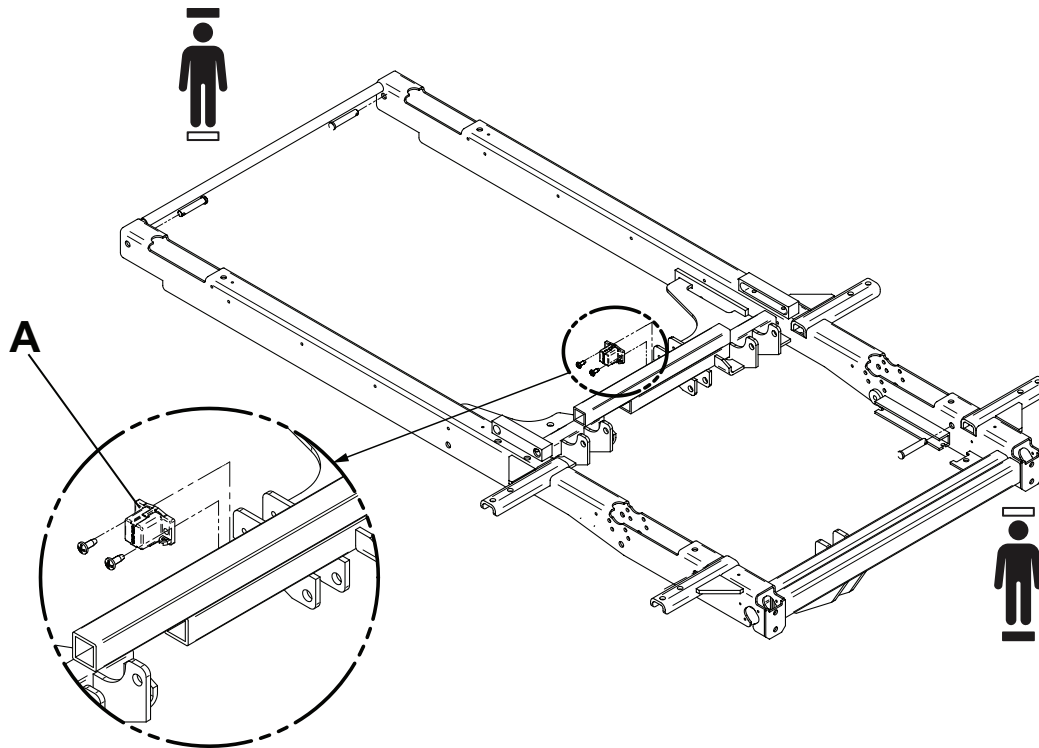

Figure 75 – Trendelenburg angle sensor
3. Working from the patient's right side, use a #2 Phillips short screwdriver to remove the two screws that secure the Trendelenburg angle sensor (A) to the litter frame (Figure 75). Save the screws.